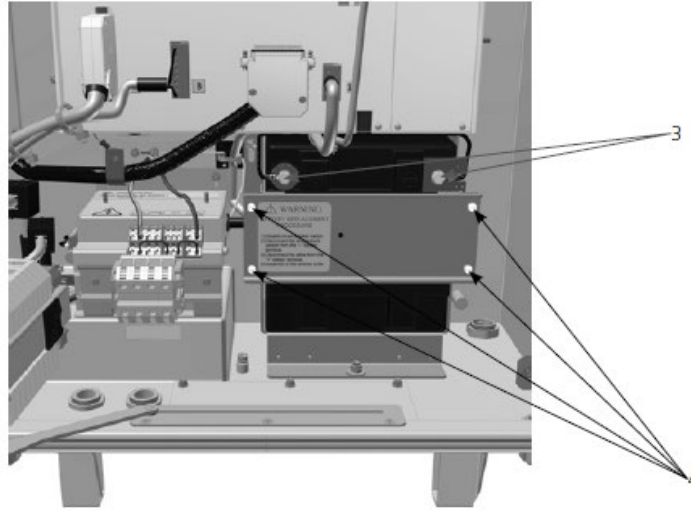

Figure 87
- 4) Unscrew four bolts from the battery fixing plate (Figure 87);
- 5) Install battery fixing plate and fix it with four bolts (Figure 87);